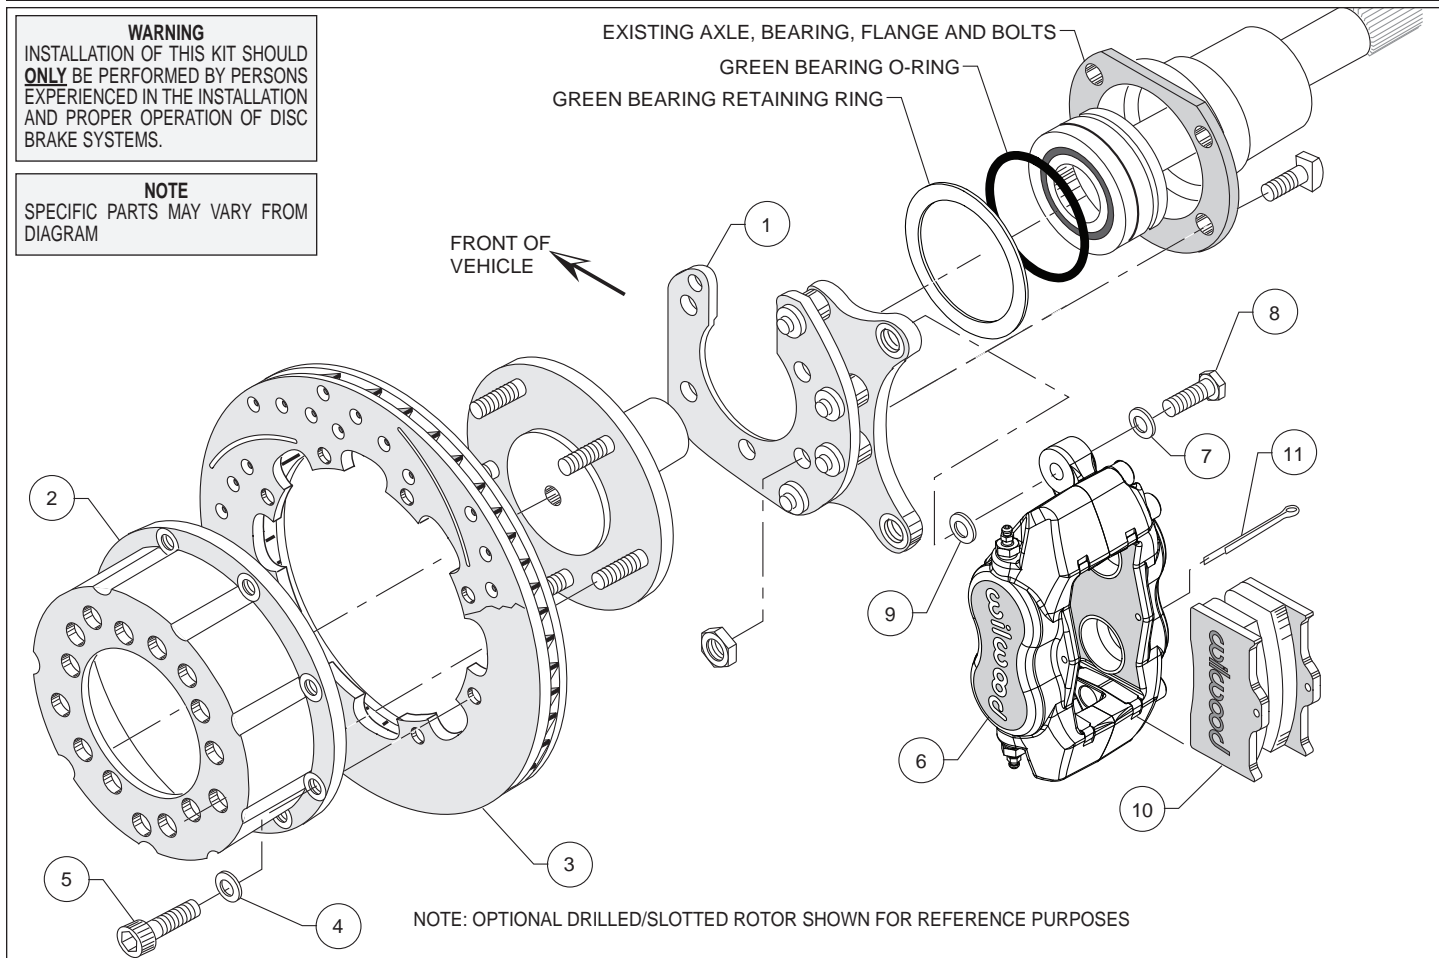
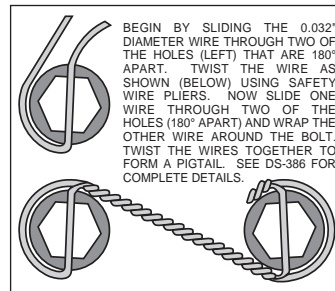
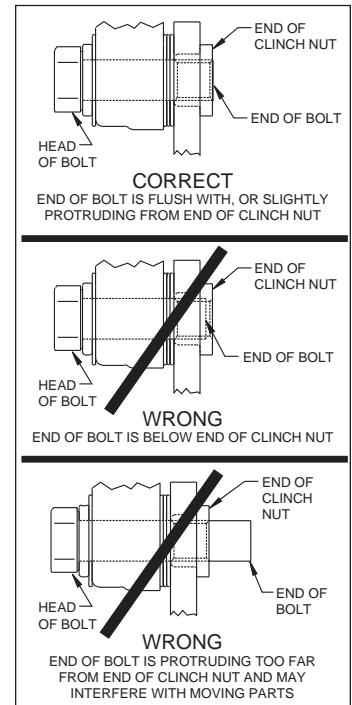

Figure 3. Typical Installation Configuration
Figure 7. Safety Wire Diagram
Figure 8. Clinch Nut Engagement Diagram
- Make sure this is the correct kit to fit the axle housing flange, not necessarily the rear end make. Many times after market manufacturers put a different make of axle housing flange on the stock rear end housing (see Figure 8). Example; Big Ford rear ends with Olds-Pontiac flanges, therefore, an Olds-Pontiac rear disc brake kit would be the correct kit to order.
- Dimension from wheel side of axle flange to wheel side of axle housing flange (see Figure 8, lower right hand corner). This dimension is critical to ensure proper alignment of the rotor to the caliper, and should match offset given in the kit description.
**Assembly Instructions** (numbers in parenthesis refer to the part list/diagram on the preceding page): **CAUTION:** All mounting bolts must fully engage insert nuts. Be sure to check that all bolts are either flush or protruding through flanged side of insert nut after shimming, Figure 8.
- Temporarily remove the retaining ring and o-ring from the bearing. Use care so as not to damage those components. Orient the bracket assembly (1) as shown in Figure 3 and slide it onto the axle and past the bearing. Reinstall the retaining ring and o-ring onto the bearing, again using care. Insert the axle and bracket assembly into the axle housing. Ensure that the bracket assembly plate fits flush against the axle housing flange. **NOTE:** The bearing retaining ring should be sandwiched between the axle housing flange and the new bracket assembly. Secure bracket assembly to the axle housing flange using the Original Equipment Manufacturer (OEM) bolts and nuts, Figure 3. Stock OEM hex nuts that retain the bracket (1) should be on the wheel side of the bracket. Apply red *Loctite*® 271 to the OEM bolt threads and torque to OEM specifications. **NOTE:** Make sure the heads of the caliper mounting bracket insert nuts are **FACING OUTWARD TOWARDS THE WHEEL.**
- Orient the rotor (3) and the hat (2) as shown in Figure 3. Attach rotor to hat using bolts (5) and washers (4). Using an alternating sequence, apply red *Loctite*® 271 to the threads, and torque bolts to 180 **in-lb**. Safety wire bolts (5) using standard 0.032 inch diameter stainless steel safety wire as shown in Figure 7. Please refer to Wilwood's data sheet DS-386 (available at
- Align the correct hole pattern in the hat (2) with the stud pattern on the axle flange and slide into place, Figure 3. **NOTE:** The rotor/hat must fit flush against the axle flange or excessive rotor run out may result. Install three lug nuts (finger tight) to keep the rotor/hat assembly in place while continuing with the installation. **NOTE:** Some OEM and after market axles come with stud sizes larger than 0.50" diameter. Verify stud size and have a qualified machine shop drill the bolt circle of the hat/rotor to the correct stud size, if necessary.
- NOTE:** Please reference the caution statement at the beginning of the assembly instructions. Mount the caliper (6) onto the caliper mounting bracket (1) using bolts (8) and washers (7), as shown in Figure 3. Initially place one .032" thick shim (9) on each bolt between the caliper and the bracket, Photo 1. Temporarily tighten the mounting bolts and view the rotor (3) through the top opening of the caliper. The rotor should be centered in the caliper, Photo 2. If not, adjust by adding or subtracting shims between the bracket and the caliper. Always use the same amount of shims on each of the two mounting bolts. **NOTE:** The end of each bolt must be flush with or slightly protruding from the head of the clinch nut, as shown in Figure 8. If necessary place spare shims between washer (7) and caliper mounting ear to achieve the proper clinch nut engagement. Once the caliper alignment and clinch nut engagement are correct, remove the bolts one at a time, apply red *Loctite*® 271 to bolt threads, and torque to 40 ft-lb.
- Install the disc brake pads (10) into the caliper, with the friction material facing the rotor (3), and secure in place using cotter pin (11), Photo 3.